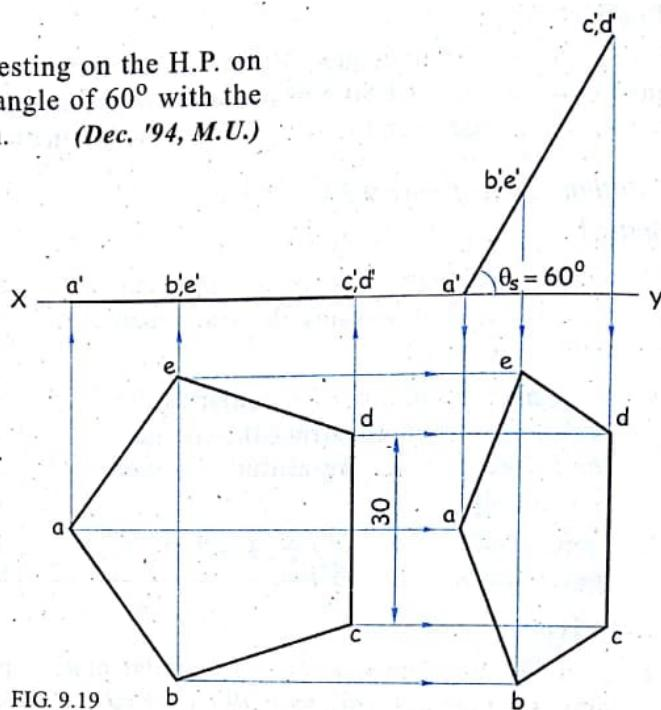

FIG. 9.19
**Solution :** Refer figure 9.19.